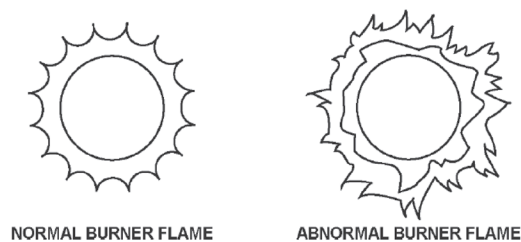

Figure 79. Normal and Abnormal Burner Flames
- Cause no excessive lifting of flame from burner ports. See **Figure 79**.